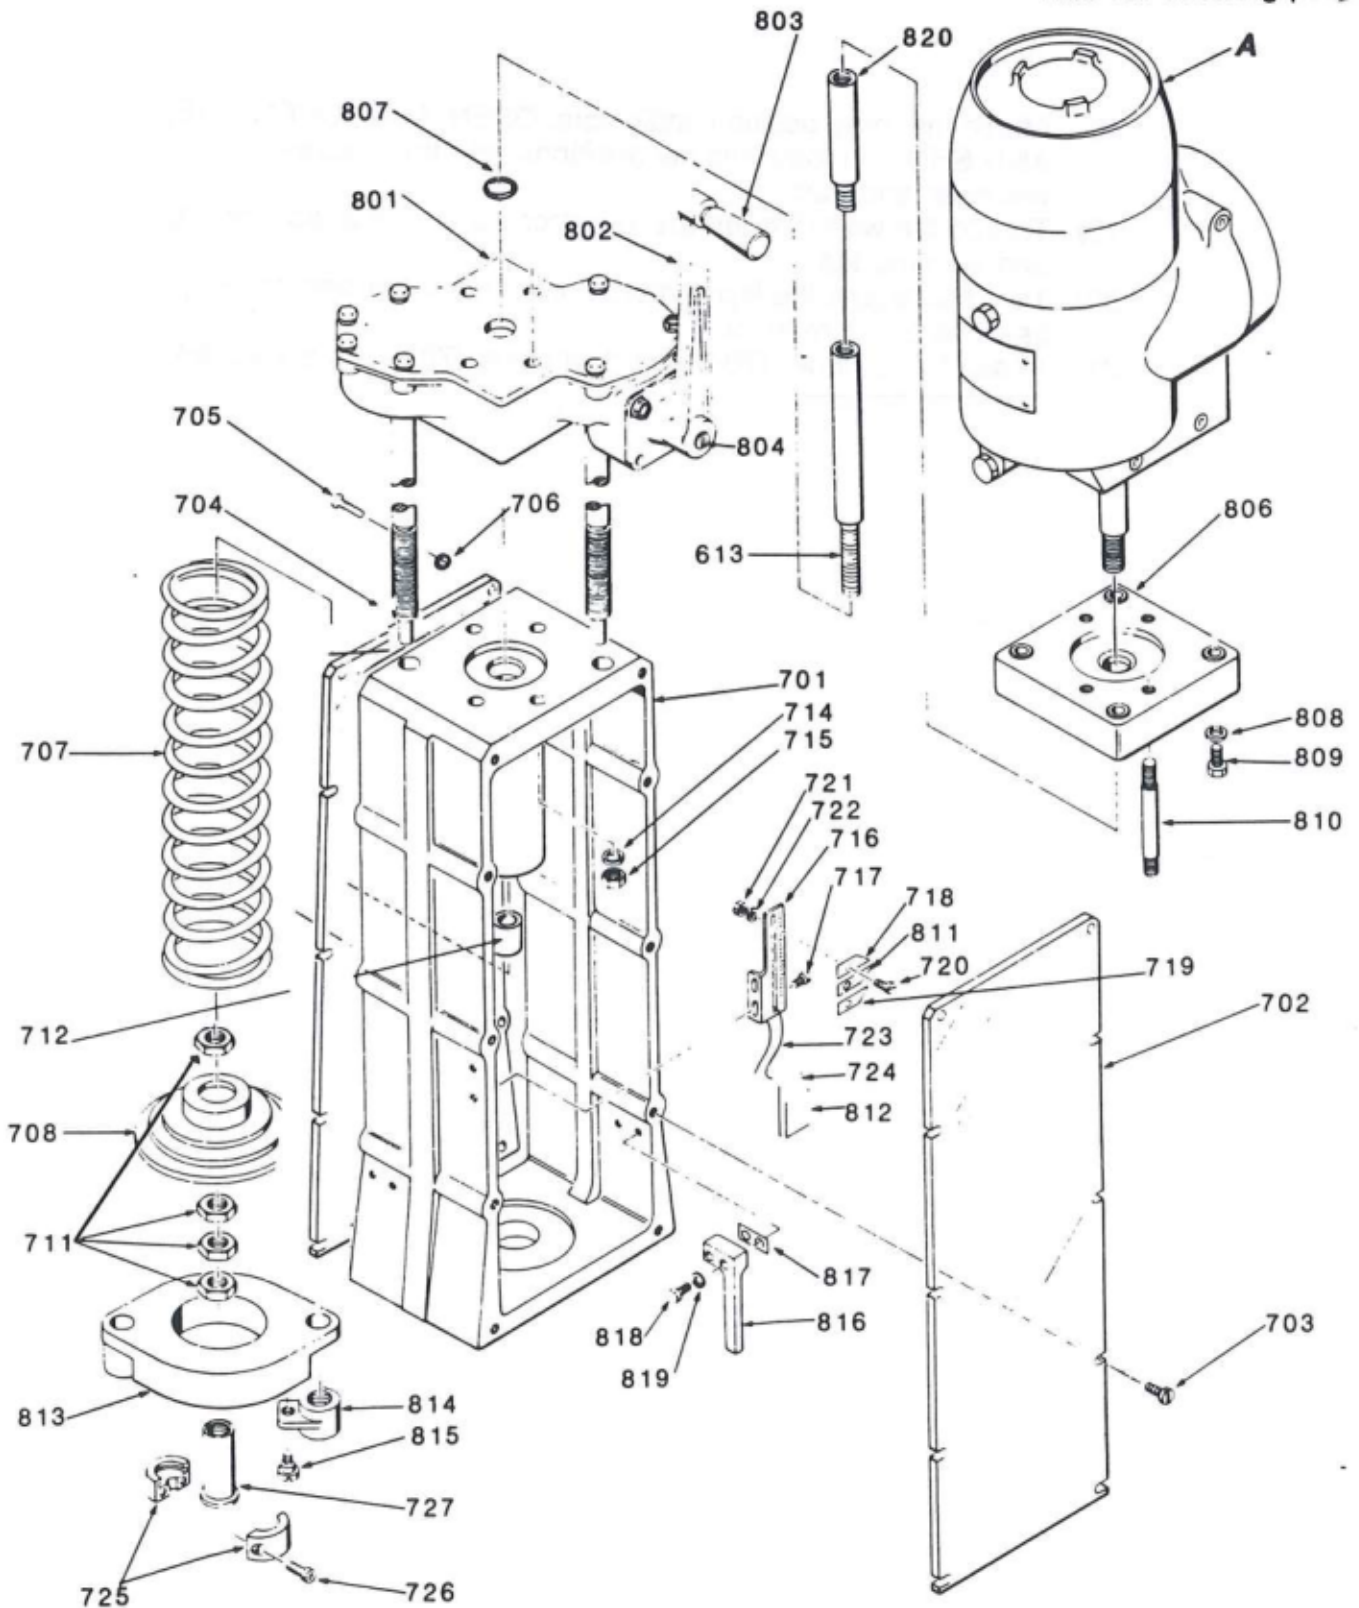

Figure 7-5. Exploded View for Yoke Assembly
- 7.1.3 Spring/Yoke/Manual Override for Pull Type (see Figure 7-5 and Figure 7-7 (following subsection 7.2 (AUXILIARY SWITCH BOX UNIT)).
- 2). Attach the adapter plate (806) to the assembly with four lock washers (808) and bolts (809), and torque to approximately 30 ft.-lb.
- 3). Thread the M.O. shaft extension (820) to the shaft.
- 4). Lubricate the adapter plate O-ring (807) with white petroleum jelly and place it onto the M.O. shaft extension (820).
- 6). Screw the short extension shaft (613) onto the M.O. extension shaft (820).
- 7). Set the M.O. assembly (801) onto the studs (810)..
- 8). Set the yoke with spring(s) on the studs (810) and secure with four 3/4" hex nuts (715) and lock washers (714). Torque to approximately 30 lb.-ft.
- 9). Place the spring retainer (708) onto the shaft and install the Spring Compression Tool (P/N S108511A) in the yoke according to the instructions in subsection 6.3 (YOKE AND RETURN SPRING ASSEMBLY-PULL TYPE). Compress the spring(s) and start the nut (711) onto the shaft.
- 10). Compress the spring(s) to the proper spring length and spin the nut (711) down on the spring retainer (708) to secure.
- 11). Remove the Spring Compression Tool and install the jam nut (711).
- 12). Install the M.O. drive plate (813) on the threaded rods with the smooth side towards the spring retainer (see Figure 7-5). It is important that both drive nuts (814) engage simultaneously, and the M.O. drive plate (813) must be parallel to the bottom of the yoke.
- 14). Bolt the two brackets (816) to the yoke, and align with shims (817) as required.
- 15). Thread the stem adapter jam nut (711) and stem adapter (727) onto the shaft extension.
- 16). Install the split coupling halves (725) over the stem adapter (727) and secure with two socket head cap screws (726), finger tight.
- 17). Attach the position indicator plate (716) to the yoke with two screws (717).
- 21). Attach the stiffener (704) and dust cover (702) to the yoke with mounting screws.
Legend for Figure 7-5. Exploded View of Yoke Assembly
Legend (Continued) for Figure 7-5. Exploded View of Yoke